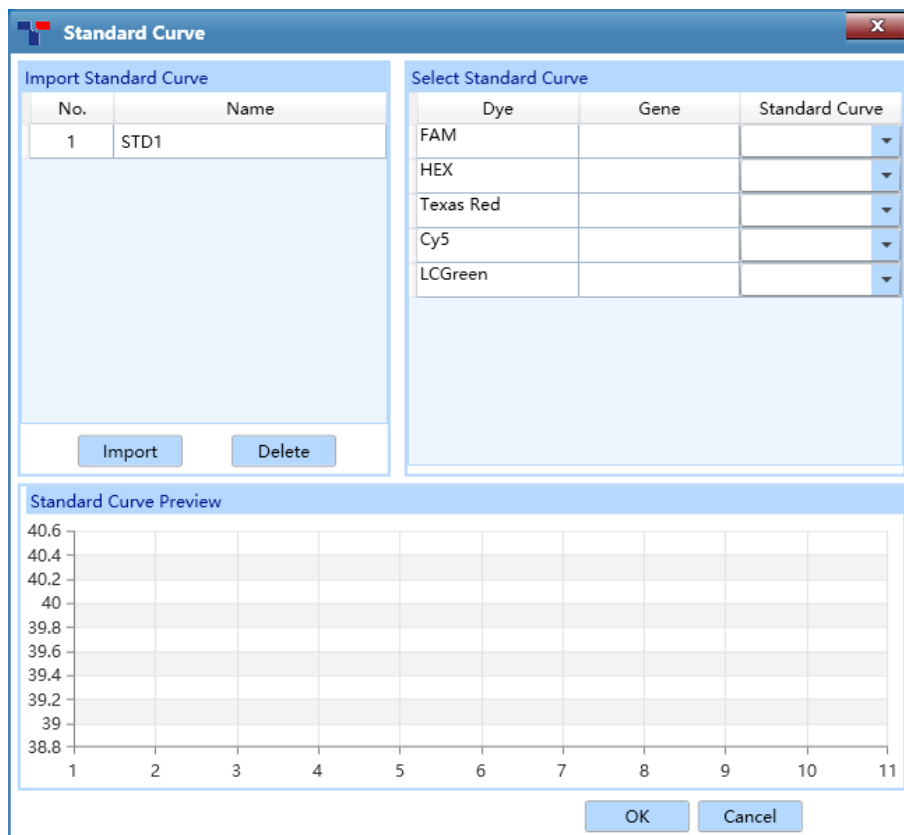

Figure D- 9.2a Abs Quant analysis interface - Standard Curve window
- **< Load Std Curve >:** click **< Load Std Curve >** and the application software will automatically pop up the standard curve window, which consists of **Import Standard Curve**, **Select Standard Curve** and **Standard Curve Preview** three parts, as shown in figure D-9.2a.